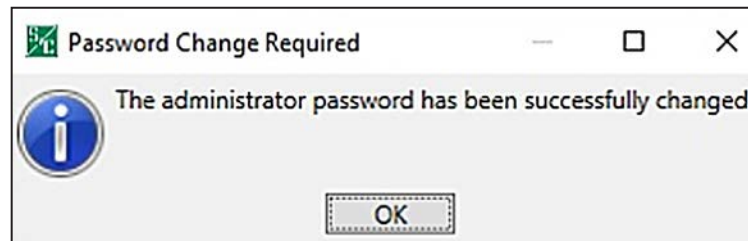

Figure 114. The Administrator Password Successfully Changed success message.
STEP 3. When the password is changed successfully, the Successfully Changed dialog box opens. See Figure 114. Click on the **OK** button to finish the change-password process. If the password was not changed successfully, go to Step 4.